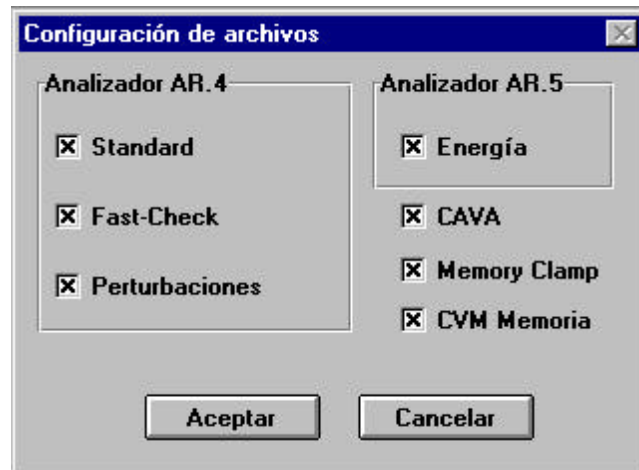

Fig.10 Driver selection
- **Files Setup:** Use this option to select the drivers to perform an analysis of their files. The installation program load by default all drivers. During program operation those most interesting for the user can be selected. (see Fig.10).